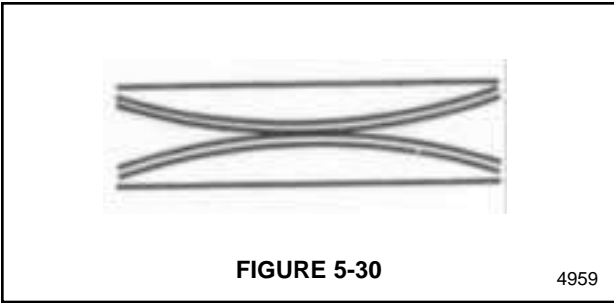

FIGURE 5-30
- Install the springs in the spool slot. See Figure 5-29. The springs must be positioned as shown in Figure 5-30.